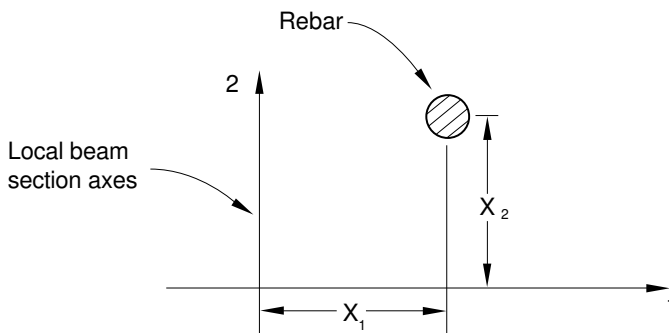

Figure 1: Rebar location in a beam section.
3. Distance X_1 (see Figure 1).